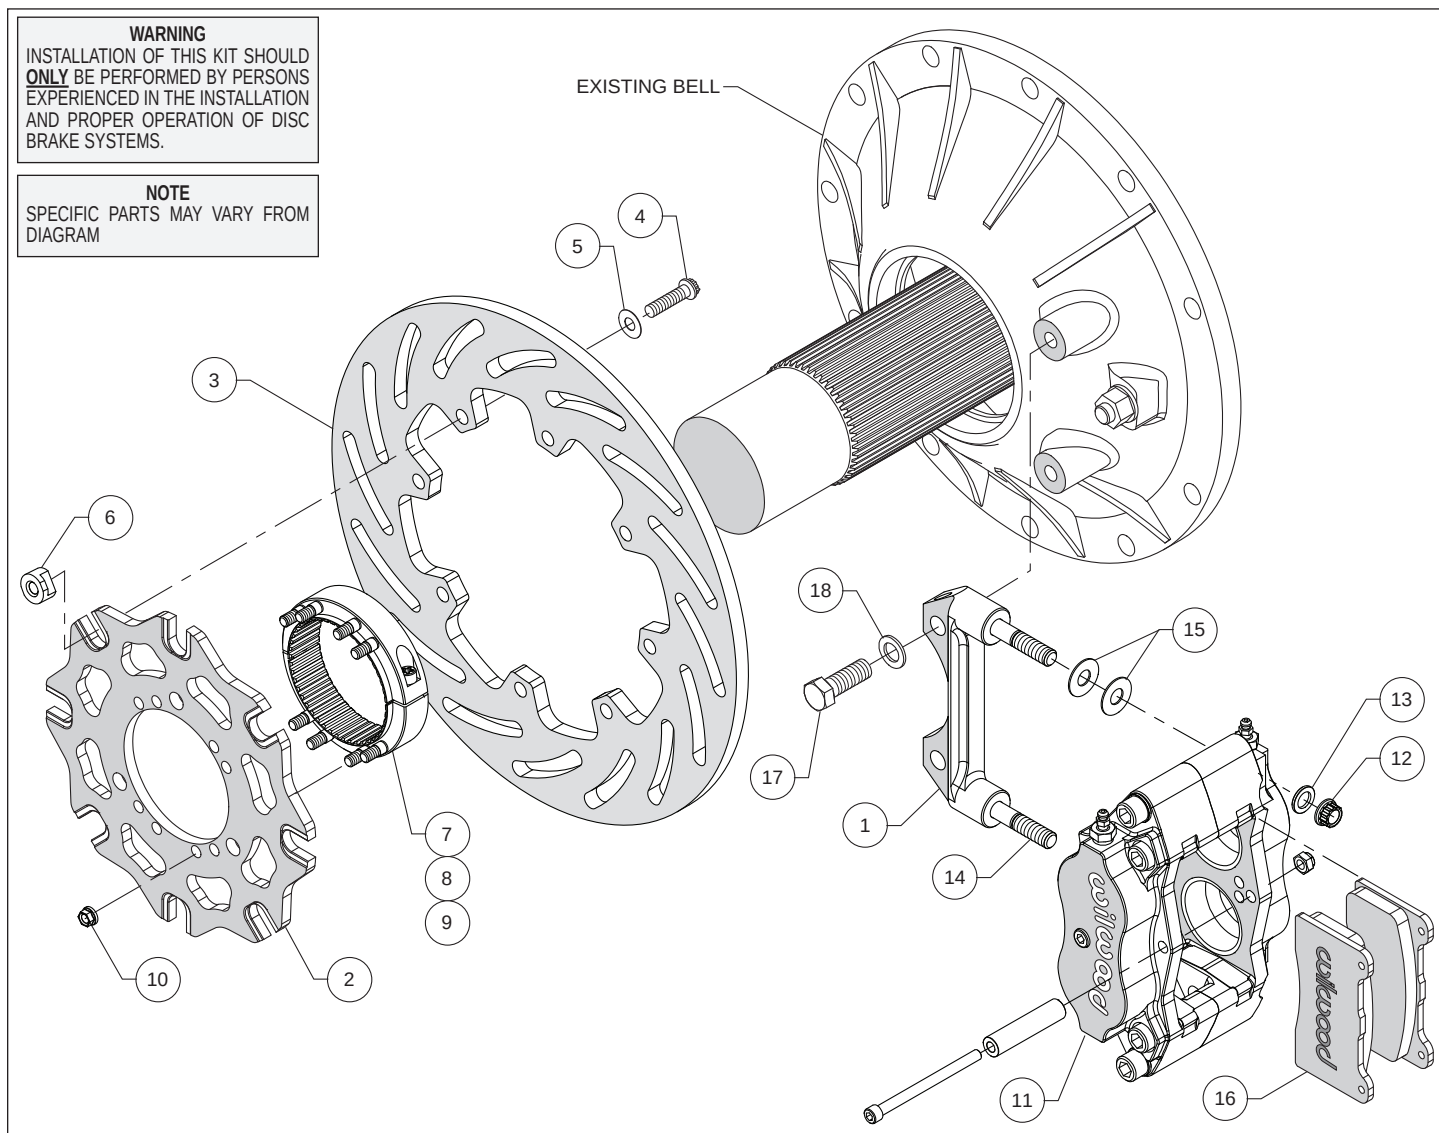

Figure 1. Typical Installation Configuration
Assembly Instructions (numbers in parenthesis refer to the parts list, and Figure 1 on the preceding pages): **CAUTION:** All mounting bolts must fully engage threaded holes.
- Orient the bracket (1) as shown in Figure 1 and install using bolts (17) and washers (18). Temporarily tighten the mounting bolts. **NOTE:** The bracket must fit squarely against the mount bosses on the bell. Inspect for interference from casting irregularities, machining ridges, burrs, etc. Remove the bracket mounting bolts one at a time, apply red Loctite® 271 to the threads, and torque to 60 ft-lb.
- With the T-notches of the rotor adapter (2) facing away from the rotor (3), attach adapter to rotor using bolts (4), washers (5), and t-nuts (6) as shown in Figure 1. Apply red Loctite® 271 to the bolt threads before installing. Finger tighten. After all t-nuts have been installed, torque bolts in an alternating sequence to 220 in-lbs. Please refer to Wilwood's data sheet DS-669 (available at www.wilwood.com/Pdf/DataSheets/ds669.pdf) for complete t-nut bolt kit installation instructions.
- Orient the axle clamp assembly (7, 8 and 9, pre-assembled) as shown in Figure 1 and install onto the rotor adapter (2) using nuts (10). Tighten nuts part way while still allowing clamp-to-adapter movement. The nuts will be torqued later, after aligning the rotor. **NOTE:** *The axle clamp should be positioned inside of the rotor as shown, not offset, or outside of the rotor adapter.*
- Lubricate the caliper mounting studs (14) with lightweight oil. Initially place two .035" thick shims (15) on each stud as shown in Figure 1. Mount the caliper (11) onto the bracket (1) using lock nuts (12) and washers (13), Figure 1. Temporarily tighten the lock nuts and view the rotor through the top opening of the caliper. The rotor should be centered in the caliper. If not, slide the rotor/adapter assembly on the axle until the rotor is centered in the caliper. Tighten the clamp bolts (9) first, locking the clamp to the axle. Torque nuts (10) to 140 in-lbs.
- Remove the caliper center bridge pad retainer bolt, nut, and tube from the caliper. Insert the brake pads (16) into the caliper, with the friction material facing the rotor. Check that the top of the brake pad is flush with the outside diameter of the rotor. If not, adjust by adding or subtracting shims (15) between the caliper and the bracket. After the caliper pad height is set, torque the caliper lock nuts (12) to 30 ft-lb. Secure the brake pads in place with the center bridge pad retainer tube, bolt, and locknut. The locknut should be snug without play in the bolt or tube. Be cautious not to over tighten.